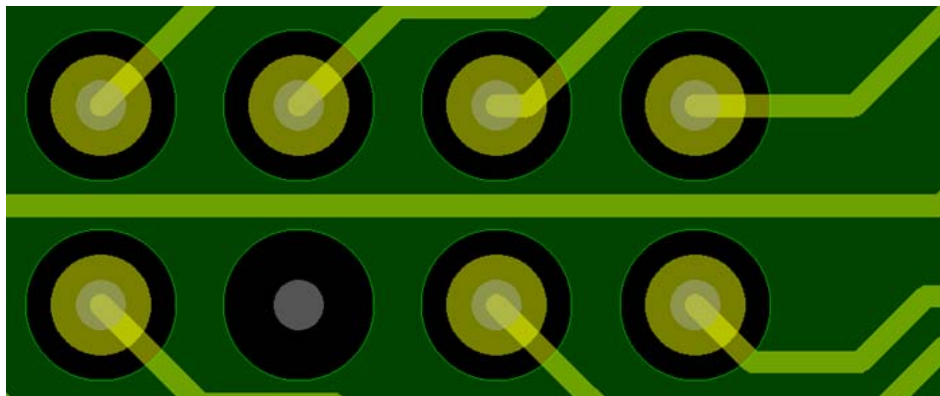

Figure 4-18: Breakout Region Routing
5. In the breakout region, route signal lines in the middle of the via void aperture. Avoid routing at the edge of via void, as shown in Figure 4-18.